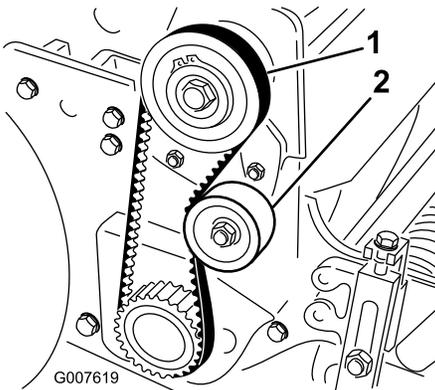

Figure 39
2. Check the tension by pressing the belt at mid span of the pulleys (Figure 39) with 4 to 5 lbs (18–22 N) of force. The belt should deflect 1/4 inch (6 mm).
- A. Loosen the idler pulley mounting nut and pivot the idler pulley clockwise against the backside of the belt until you attain the desired belt tension (Figure 39).